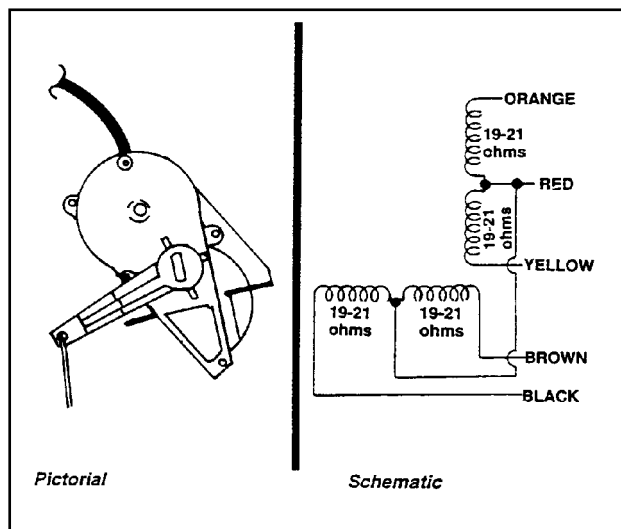

Figure 3. The Stepper Motor
The Stepper Motor consists of an electric motor plus a small gearbox. It is shown pictorially and schematically in Figure 3. The four (4) motor windings can be tested for (a) continuity and (b) shorts to the case.